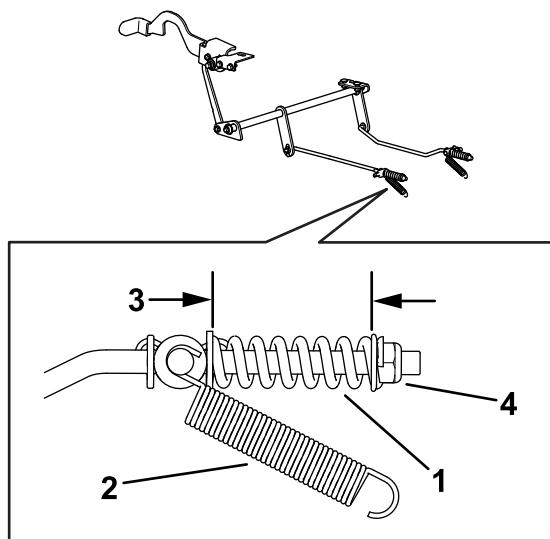

Figure 74
8. Check both spring lengths as shown in Figure 74. If an adjustment is necessary, turn the spring retention nut clockwise to shorten the spring and counterclockwise to lengthen it. Repeat step 6.